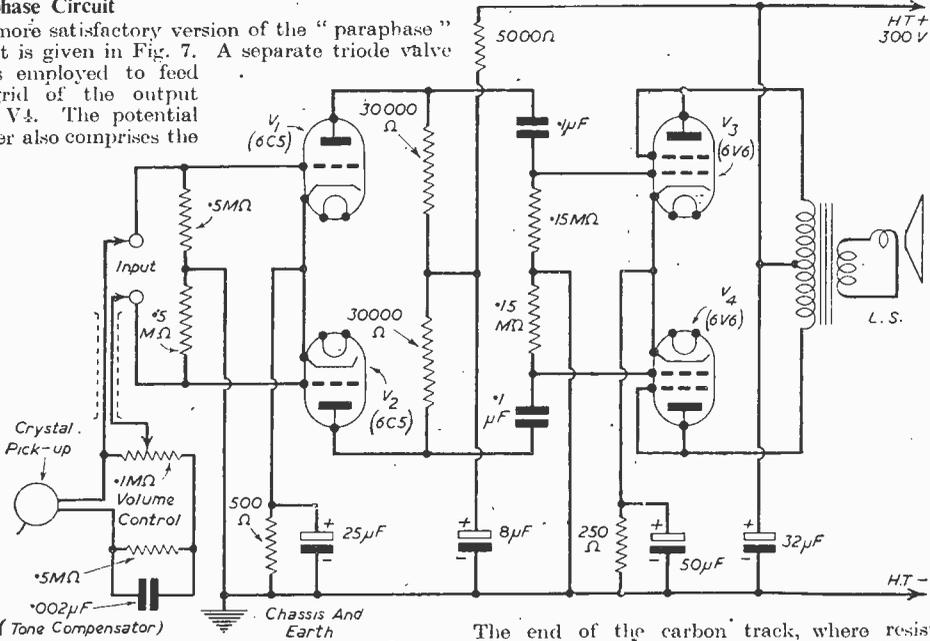
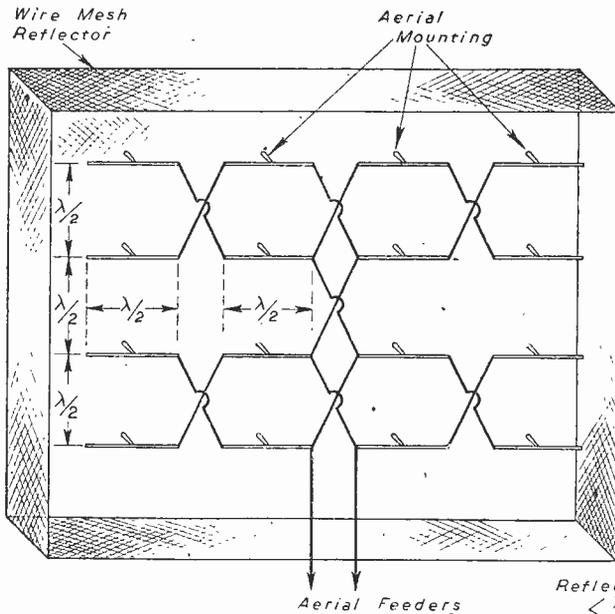

Fig. 8.—Twin-channel amplifier circuit, using "strapped" tetrodes as output triodes. Typical circuit for crystal pick-up is also shown.
Fig. 7.—A representative form of stacked dipole aerial array, with wire mesh back reflector. The whole array is arranged to rotate for direction-finding.
The circuit shown in Fig. 8 has two input channels with separate valves, or a double-triode, to feed the matched output pair V3 and V4.
**L**AST month we saw how it was made possible to distinguish between enemy and friendly aircraft and proceeded to a discussion of some of the more usual types of aerial. One of the most popular was the stacked half wave with wire-mesh reflector, and this is illustrated below in Fig. 7. Amateurs who are familiar with the Sterba and 8 JK systems will be well acquainted
with this particular form of assembly. The Yagi aerial is illustrated in Fig. 8 and is somewhat less efficient, but this is offset by the fact that it is more compact. The arrangement of Fig. 7 was used mainly for coast-watching stations (amongst other things) and the Yagi is used principally with the G.L. and S.L.C.
Fig. 8.—The Yagi type of directional aerial has a reflector, which is slightly longer than the aerial itself, or which consists of a parabola and any number of directors, which are slightly shorter than the aerial. The narrowness of the beam angle is governed by the number of directors. All elements are spaced by one-half wavelength.